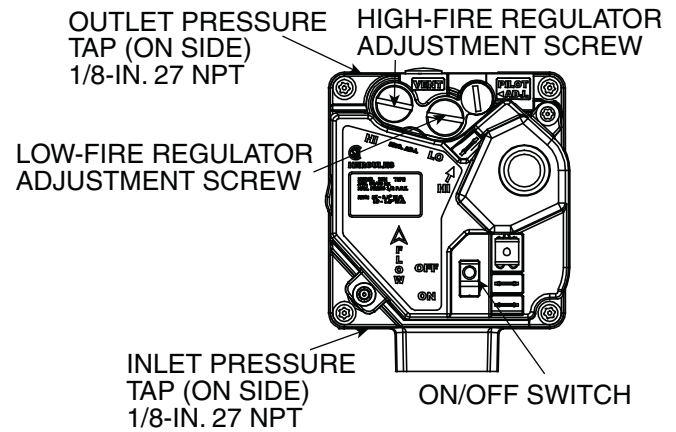

Fig. 57 — Gas Valve (Part Number EF33CW271)
6. Remove screw cap covering regulator adjustment screw (See Fig. 57).